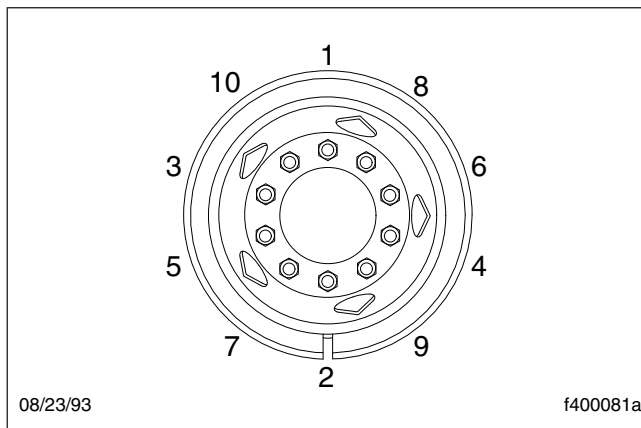
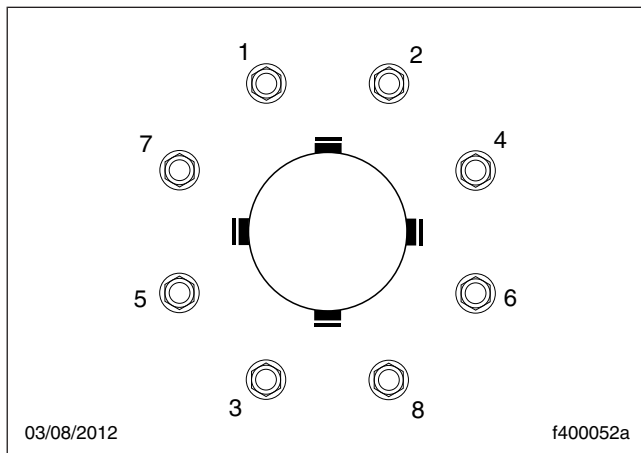

Fig. 11.11, Tightening Pattern, 10-Hole Wheels
Fig. 11.12, Tightening Pattern, 8-Hole Wheels
- 19.3 Make sure all wheel nuts are tightened 450 to 500 lbf-ft (610 to 678 N·m) for Ac-curide wheels with unlubricated threads. Use the tightening pattern in Fig. 11.11 for 10-hole wheels and Fig. 11.12 for 8-hole wheels. See **Group 40** of the *Walk-In Van Chassis Workshop Manual*.